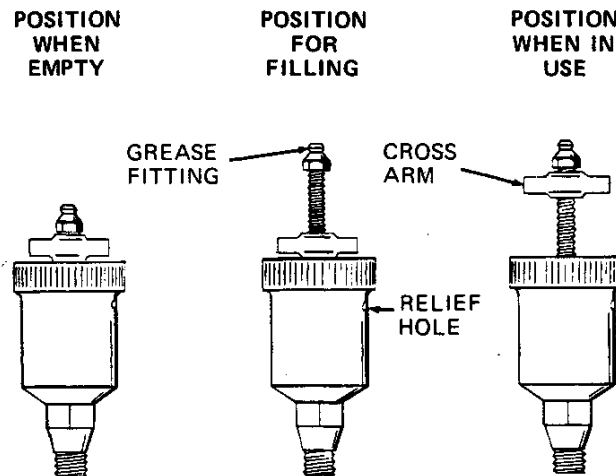

Figure 5. Automatic Lubricating Grease Cup
Before removing the seal assembly, turn the cross arm on the seal grease cup (19) clockwise until it rests against the cover (see figure 5). This will prevent the grease in the cup from escaping after the seal is removed.
Before starting the pump, fill the grease cup through the grease fitting with a good grade of No. 2 pressure gun grease until grease escapes from the relief hole. Turn the grease cup arm counterclockwise until it is at the top of the stem; this will release the spring to apply grease to the seal (see figure 5).